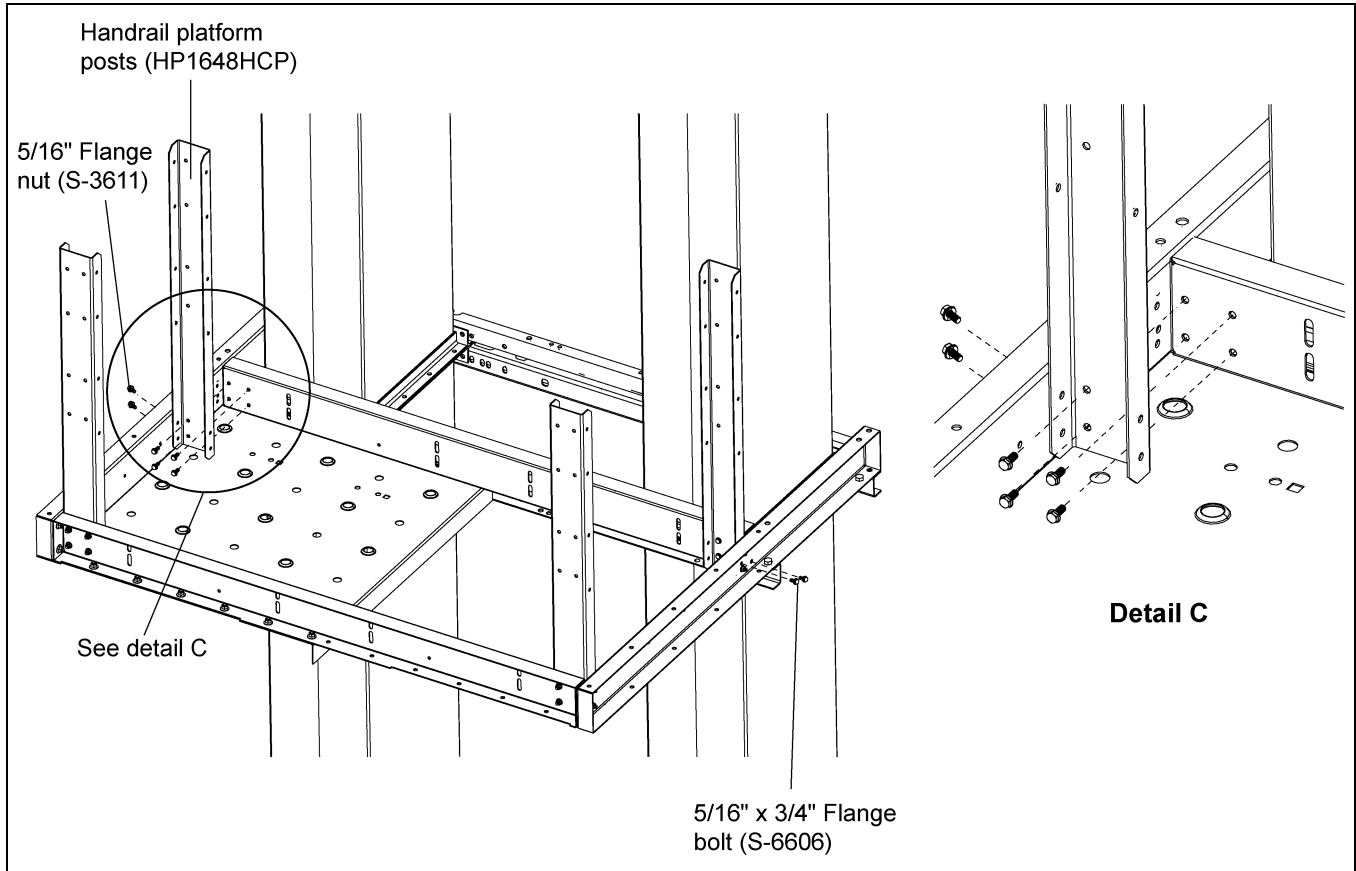

Figure 6M
3. Install the handrail platform posts to the rest platform mounting channels and rest platform channels using six (6) 5/16" x 3/4" flanged hex bolts for each post, four (4) bolt to the front and two (2) on the side. (See Figure 6M.)